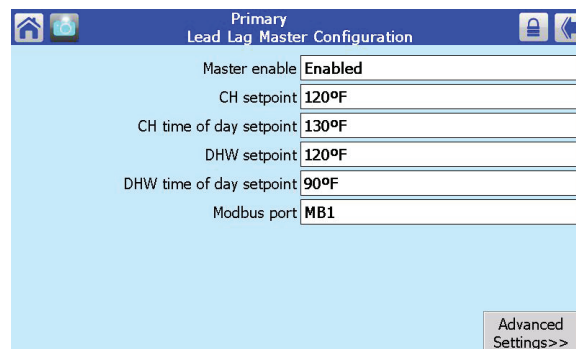

Fig. 118 – Lead/Lag Master Configuration
3. Press the Configure button. The display will present the Lead/Lag Master Configuration Screen (Fig. 118). Set the DHW setpoint on this screen.